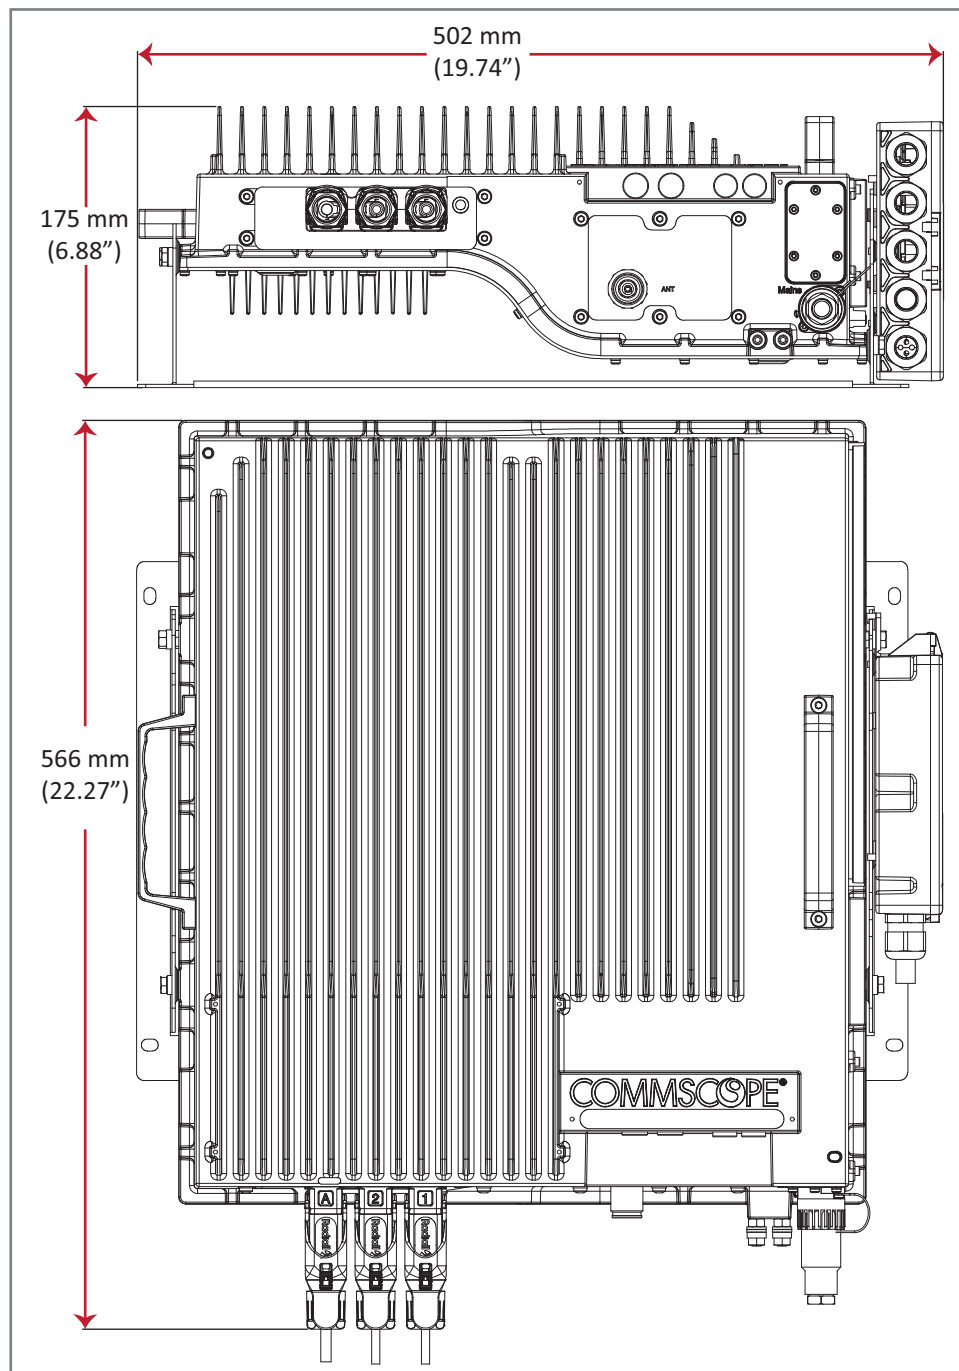
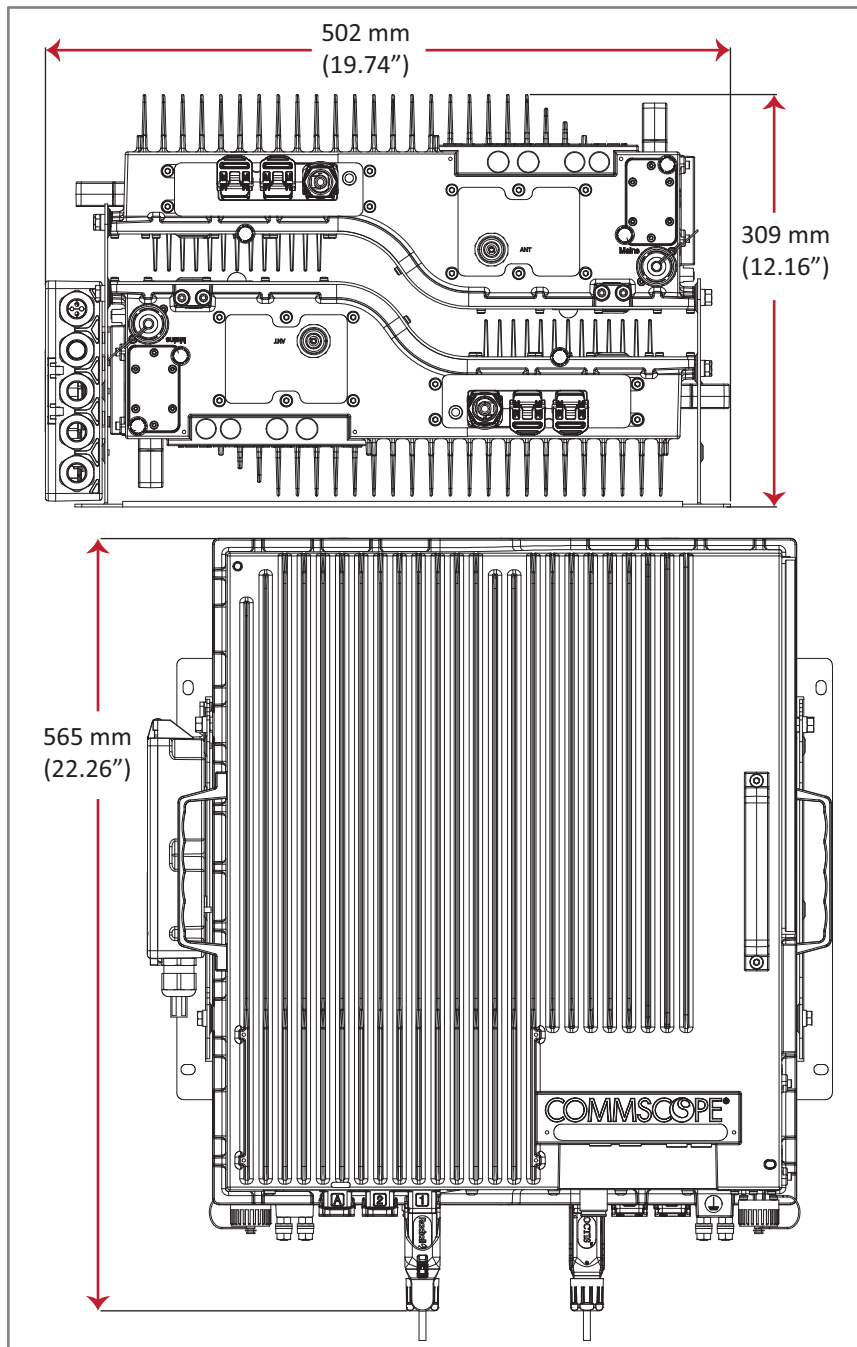

Figure 5. Mounting Dimensions with the Single Mounting Bracket
Figure 6. Mounting Dimensions with the Dual Mounting Bracket
- Use the dimensions shown in Figure 5 on page 21 for Single Mount and Figure 6 on page 22 for Dual Mount.